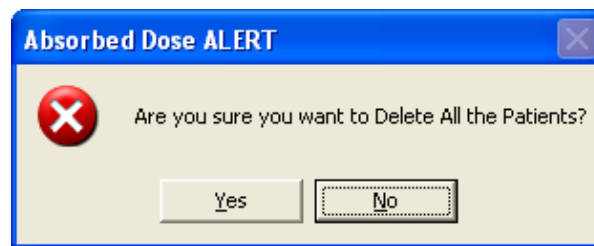

Figure 9-18
3. To delete all the patients at once, simply click the  icon. You will be prompted to confirm the deletion. Figure 9-18 will appear.